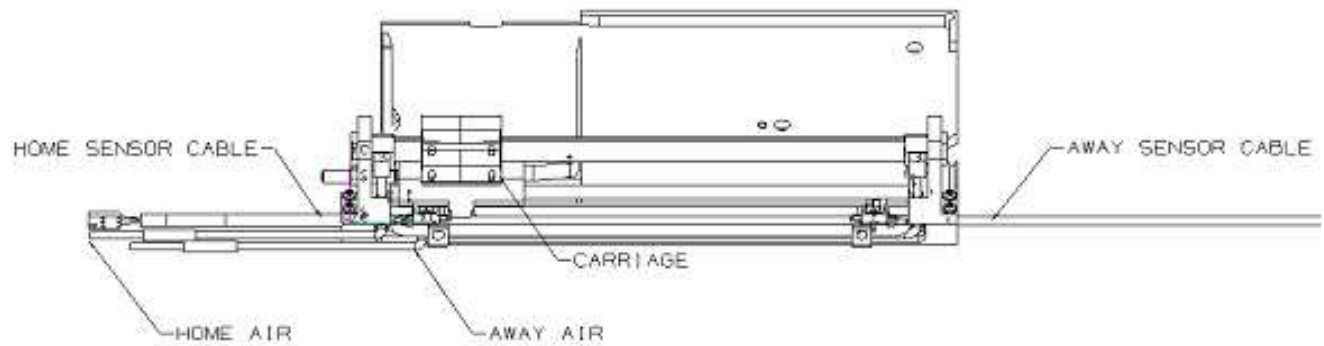

Figure 1
- 2.2. Connect the female Home sensor cable located on the left side of **UUT** to the panel-mounted connector labeled **CARRIAGE HOME** (refer to figure 1 or 2 on page 4).
- 2.3. Connect the male Away sensor cable to the small cable attached to the panel-mounted connector labeled **CARRIAGE AWAY** (refer to figure 1 or 2 on page 4).
- 2.4. Connect the **HOME AIR INLET** tubing to the bulkhead fitting labeled **HOME AIR** (refer to figure 1 or 2 on page 4).
- 2.5. Connect the **AWAY AIR INLET** tubing to the bulkhead fitting labeled **AWAY AIR** (refer to figure 1 or 2 on page 4).